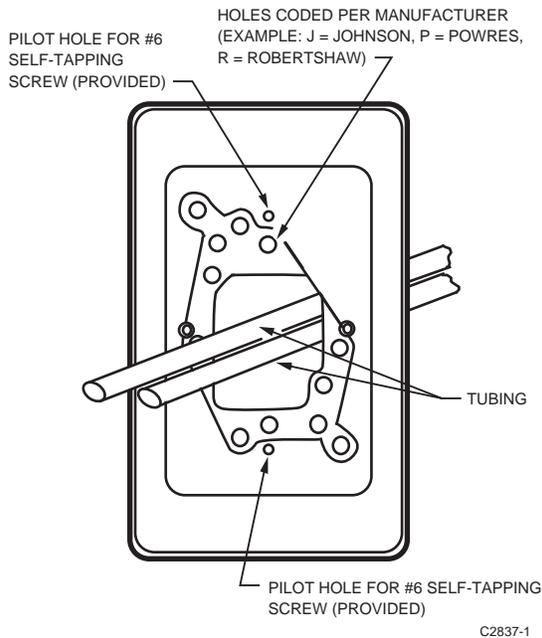

Fig. 4. Adapter Plate Installation.
- 1 Feed the tubes through the large hole in adapter plate (Fig. 4).
NOTE: If any wall screw holes coincide with the noncoded pilot holes on the adapter plate (Fig. 4), proceed as follows (If not, continue with Step 3.):